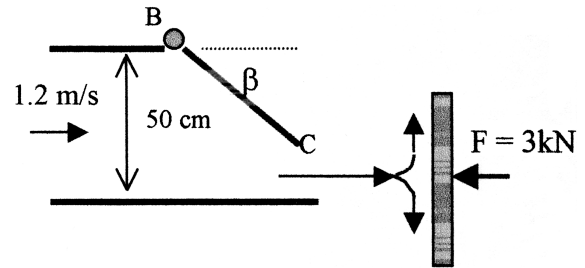

Fig. P3.57
3.57 Water flows through the duct in Fig. P3.57, which is 50 cm wide and 1 m deep into the paper. Gate BC completely closes the duct when $\beta = 90^\circ$. Assuming one-dimensional flow, for what angle β will the force of the exit jet on the plate be 3 kN?